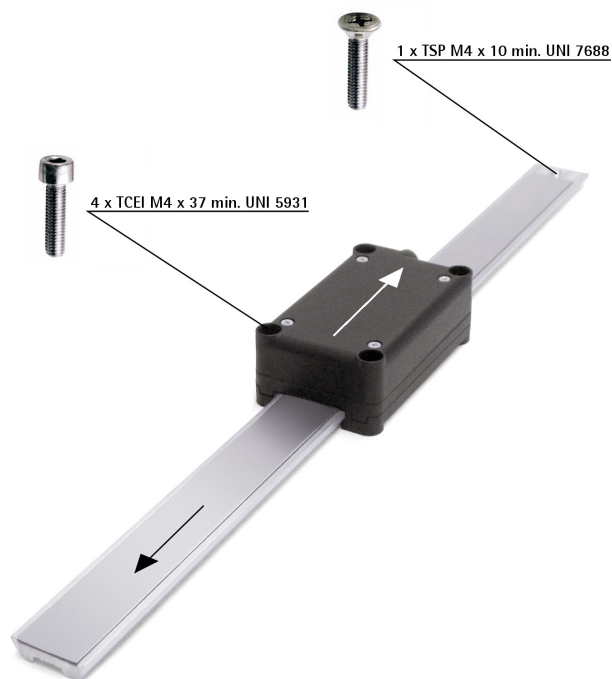

Figure 2
3.3 Sensor (Figure 2)
3.4 Profile of the magnetic tape (Figure 2)
3.6 Standard counting direction (Figure 2)
The positive counting direction (count up information) is achieved when the sensor moves on the tape according to the white arrow shown in Figure 2; or, on the contrary, when the tape moves according to the black arrow shown in Figure 2. For further information see the bit 3 **Code sequence** in the **6000-00 Operating parameters** object, see on page 47).